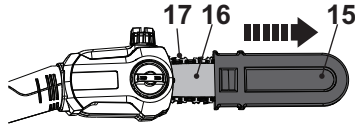

Fig. 3
1. Remove the guide bar cover (15) from the saw chain (17) and the guide bar (16) before operation (Fig. 3).
2. Keep the guide bar cover (15) safely.